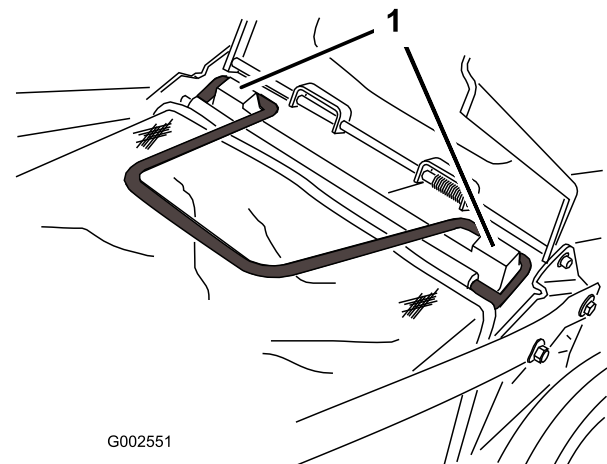

Figure 18
3. Install the bag on the bag mounting posts (Figure 18).